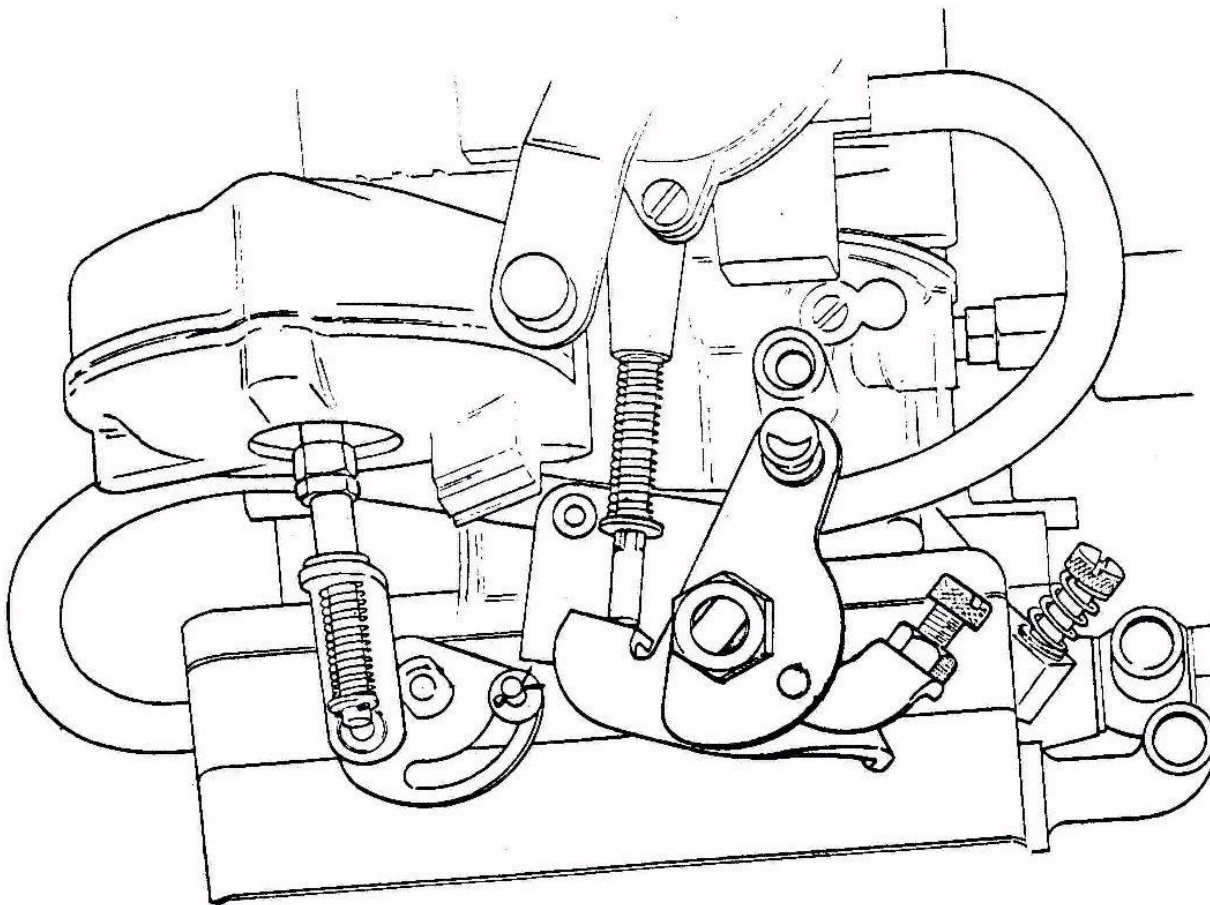

Fig. 12 - Vacuum and Emission Controlled Progressive Linkage.
- 5 - The special dual throttle carburettor (dealt with in the ensuing section) is fitted with a vacuum controlled progressive linkage (see fig.12).